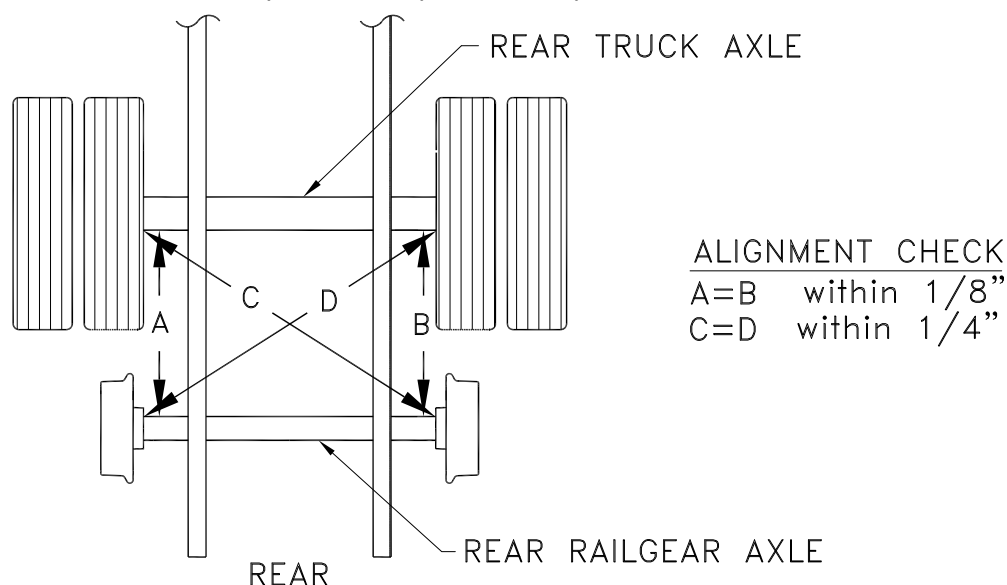

Figure 4.4.6 Squaring Rear Railgear
The Rear Railgear needs to be made absolutely square with the rear truck axle. Four measurements (shown in Figure 4.4.6) need to be taken to ensure this requirement:
- (1) The distance from the truck axle to the Rear Railgear Axle at each end. In Figure 4.4.6, distance "A" must be equal to "B" (within 1/8"). This is an important alignment check.
- (2) The diagonal from the truck axle to the opposite Rear Rail Wheel. In Figure 4.4.6 distance "C" must be equal to "D" (within 1/4").